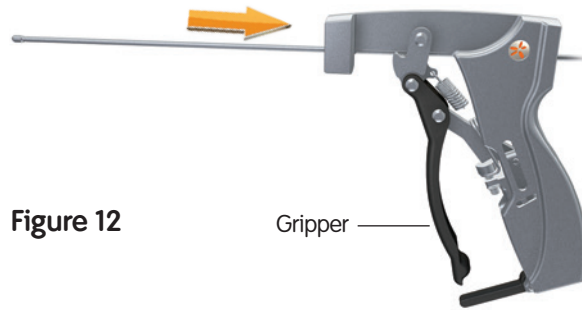

Figure 12
1. Open the Gripper (71674080) (Figure 12).